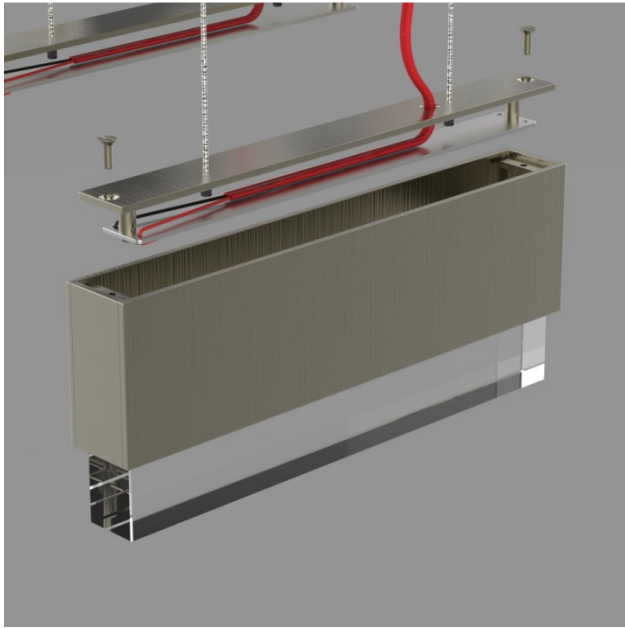

Figure 7
- Attach decorative housing units. (Figure 7)